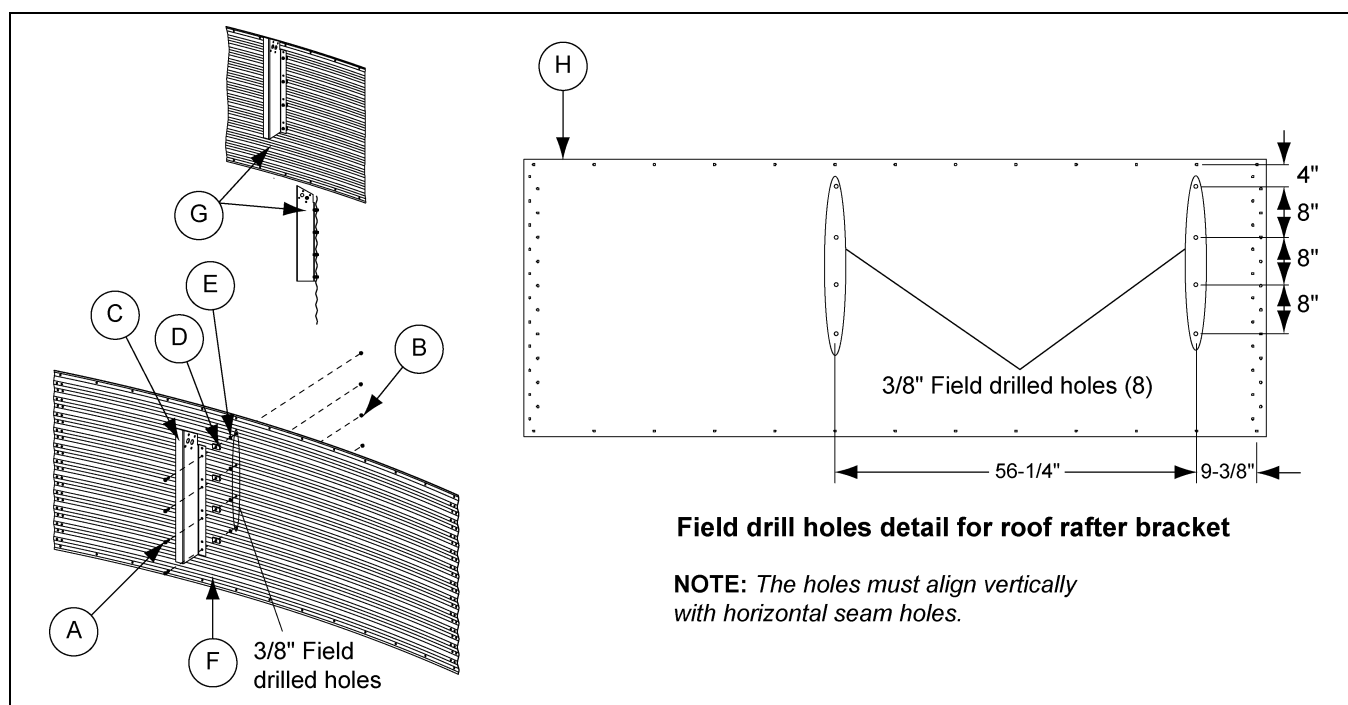

Figure 8A Installing the Roof Rafter Bracket to the Sidewall
Field drill $3/8$ " hole 4" below the center of horizontal seam holes over $9-3/8$ " from right side first horizontal seam hole. Drill three (3) more holes spaced 8" down each starting from first field drilled hole. See the details in Figure 8A.